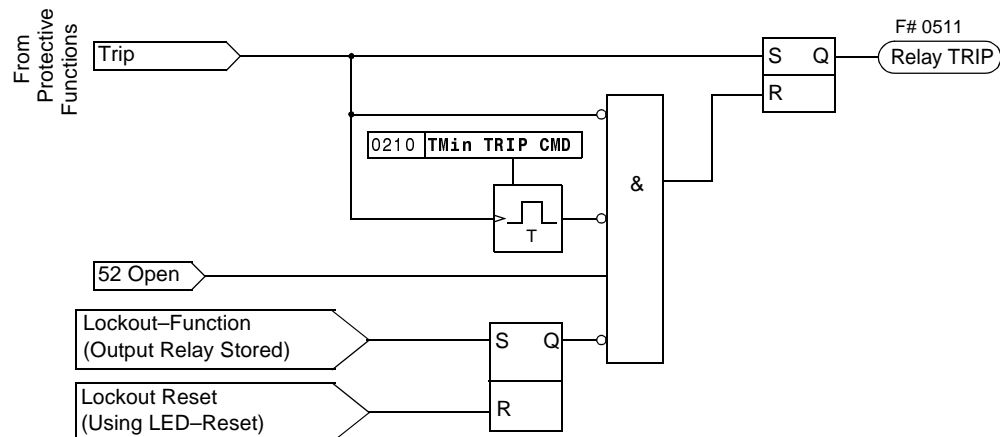

Figure 6-48 Terminating the Trip Signal
- All trip signals from a protection function hold the 0511 Relay TRIP function, and start the minimum trip signal duration timer (set at address 0210 **Tmin TRIP CMD**, see Figure 6-48). This trip signal duration timer ensures the trip signal is transmitted to the circuit breaker for a sufficient amount of time, even if the function which issued the trip signal drops out quickly. The trip signal is only terminated after all protection functions drop out AND the minimum trip signal duration expires.